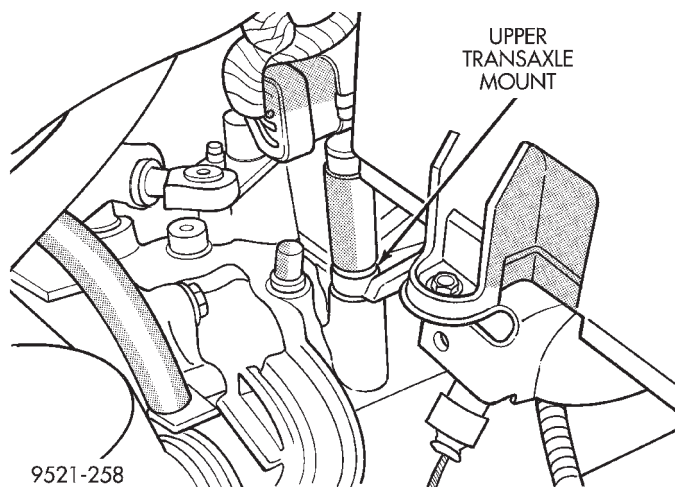

Fig. 26 Left Mount Upper Bolts
- (10) Remove left transaxle mount upper bolts (Fig. 26).